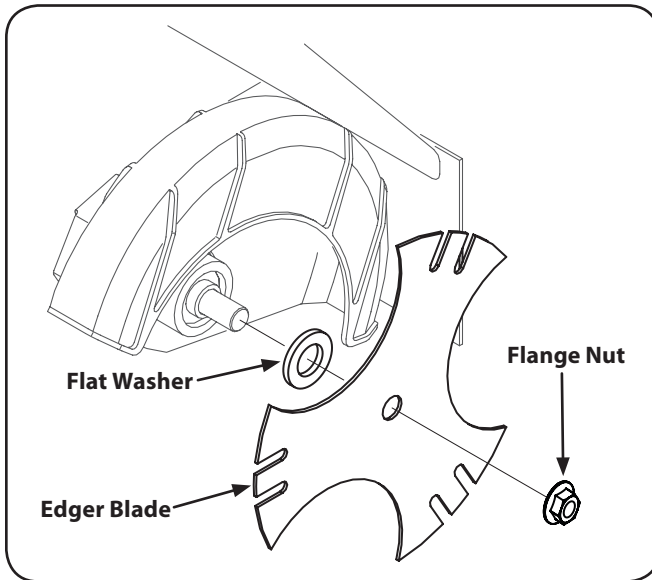

Figure 6-1
1. Use two wrenches (one wrench to prevent the hex bolt head from spinning and the other to remove the flange nut) to remove the edger blade. Refer to Fig. 6-1.